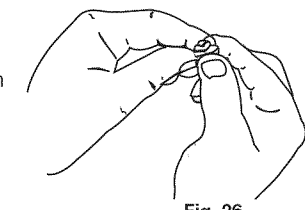

Fig. 26
- Squeeze the filter to spread and remove excess oil (Fig. 26).